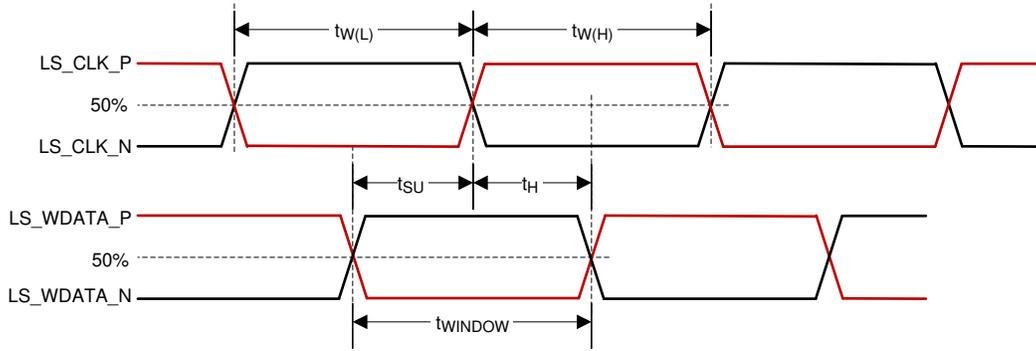

图 6-4. LSIF Timing Requirements
- (3) See 图 6-4 for pulse duration high and low time for LSIF.
- (4) See 图 6-4 for setup and hold time for LSIF.